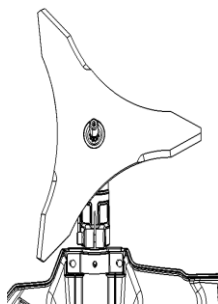

Fig.9
2. Align the blade onto the support plate, insert the #1 Allen key inside the hole, and put the blade on the support plate, align the flange, dust cover, and screw the nut with provided socket wrench by anti-clockwise direction until it is tight enough (Fig.9&10&11)